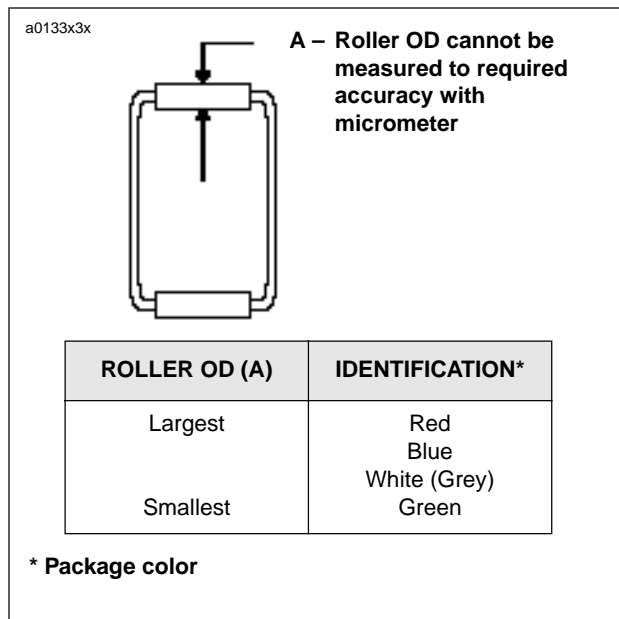

Figure 3-123. Bearing Identification
16. See Figure 3-123. Pinion bearings are identified as shown.